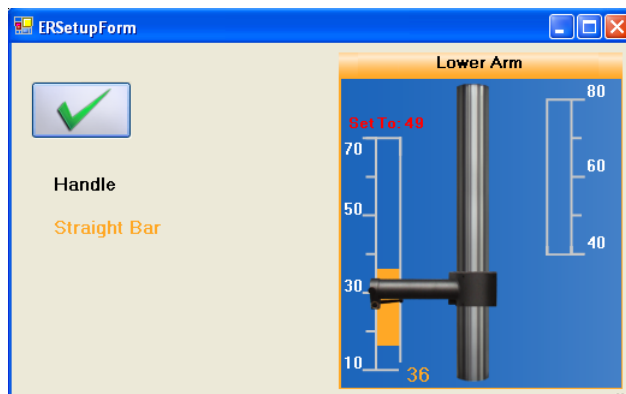

Figure 9-17. Column Load Cell Settings Screen
Step 3. Refer to the Settings screen, which appears prior to the Test Administration screen, for additional test setup requirements (Figure 9-17).